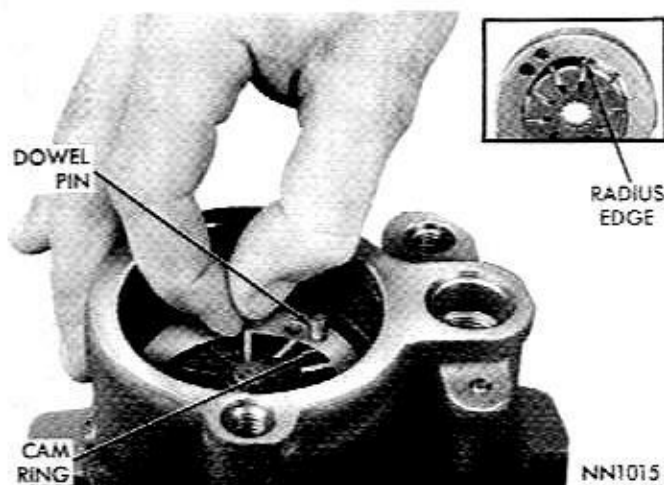

Fig. 16—Installing Rotor Vanes
(8) Install ten vanes in rotor slots with radius edge facing out towards cam ring inner surface (Fig. 16).